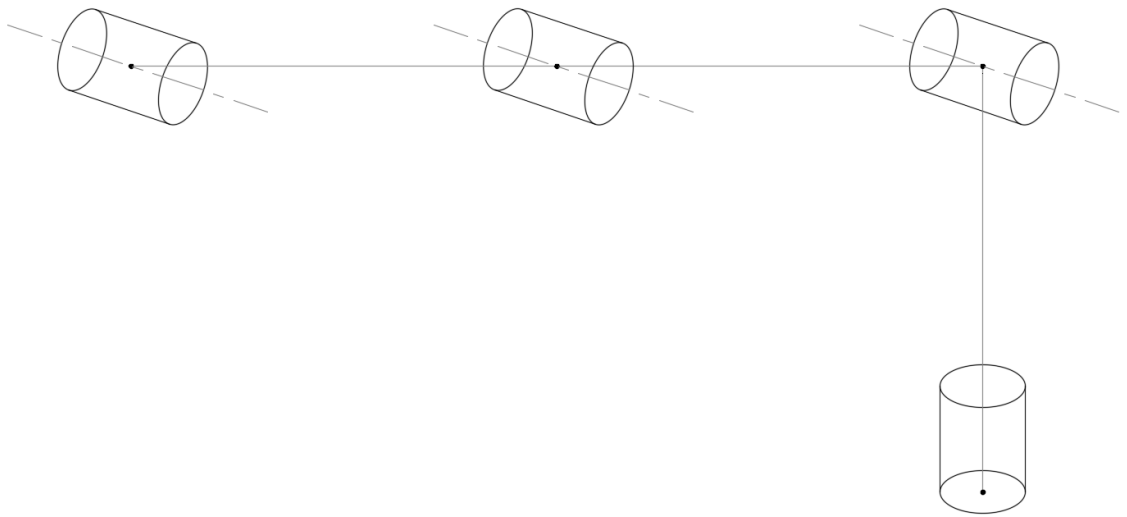

Figure 1.2 CRS robot (DH frames to be assigned)
8. For one more initial exercise with the robot arm, determine the positive direction of the robot joint motor's angle and the positive torque direction of each joint motor. Produce a stick figure picture showing the positive direction of the three joint angles and torques. To do this you will slightly modify the code in the function "lab" in your lab1<yourinitials>.c file. The function *lab(float theta1motor, float theta2motor, float theta3motor, float *tau1, float *tau2, float *tau3, int error)* is called by the supporting code once every millisecond. It is passed the radian value of each of the three motor joint angles and references to the three torque commands for the joint motors. Acceptable values for tau1 through tau3 are a real number between -5 and 5. The unit of this -5 to 5 number is directly proportional to torque. For this exercise, one at a time, change the line of code that assigns an open loop torque to each of the motors and run the robot while watching the theta angles displayed in Tera Term. For example change the line of code **tau1 = 0.0;* to **tau1= 1.0;*. Debug your code and perform the required steps to run the robot arm and you should see joint one turn in its positive direction until it goes outside of the safety region and then will stop. Repeat for joint two and three zeroing the other joints so only one joint moves at a time. Indicate on Figure 1.2 the positive direction of the three joints and **show your TA**.
- 1.2.1 When using the D-H convention, proper coordinate frames have to be defined. Figure 1.2 gives a sketch of the CRS robot arm with all the z axis of joints fixed. Label the rotation directions of all joints according to the positive direction you found in 1.2 above.
- 1.2.2 Use right hand rule to determine the direction of all z axis. Then, on figure 1.2, complete the D-H frame by properly adding x axes.